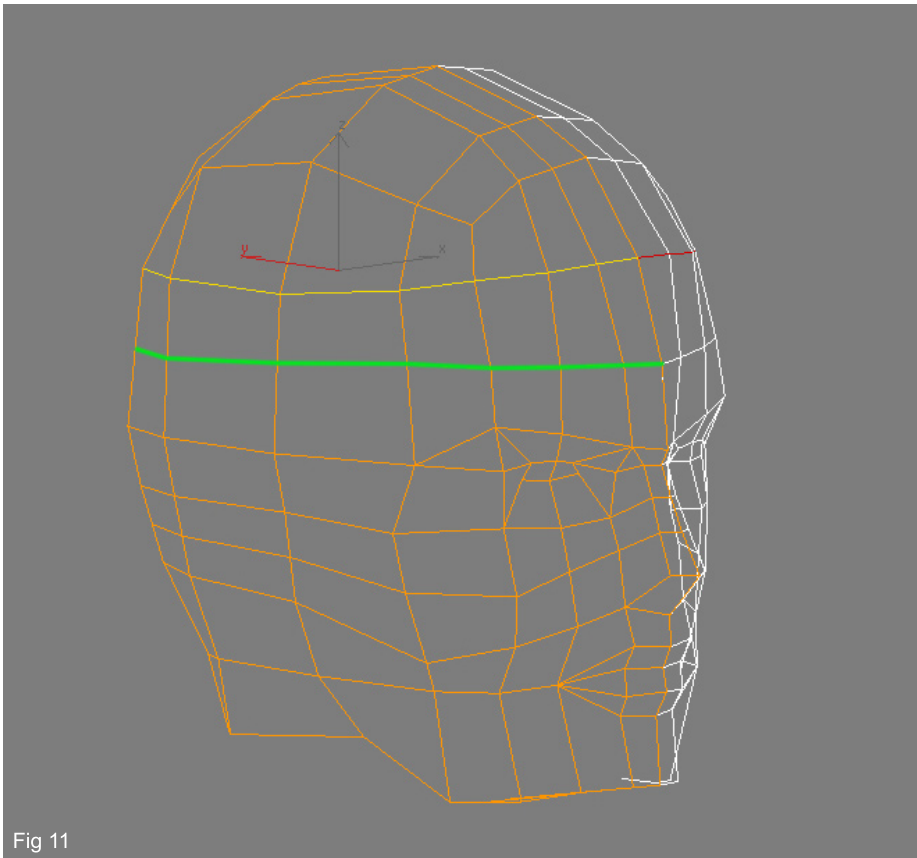

Fig 11
11. The eye area is somewhat improved but we need some more detail above the brow so move the existing line of verts up slightly (yellow line in Fig11.) and add a new subdivision below this and the brow (green line) which will help form a better forehead shape.